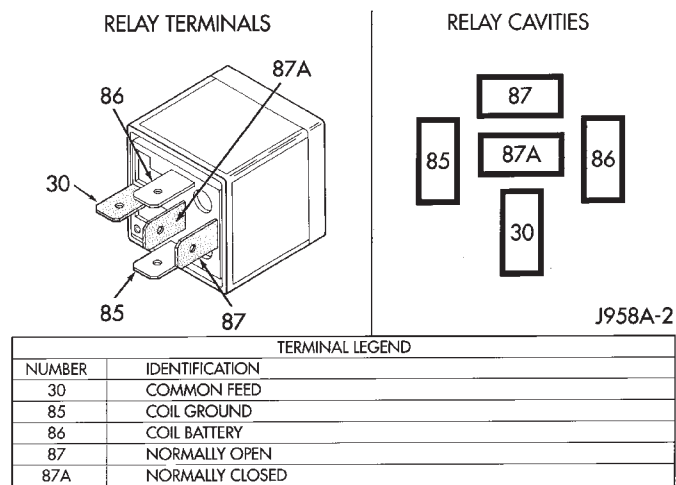

Fig. 10 Type-1 Relay
(13) If equipped with **type-1 relay** (Fig. 10), attach test leads from LCS adapter into PDC relay cavities number 30 and 87. For location of these cavities, refer to numbers stamped to bottom of relay (Fig. 10).